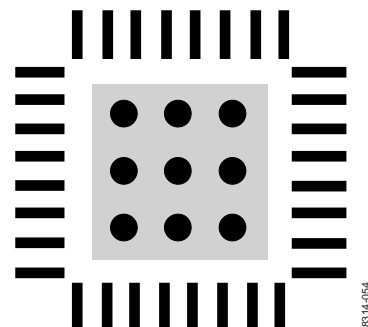

Figure 58. Exposed Pad Layout Example, Top View
- Vias should be placed to connect all layers of copper, allowing for efficient heat and energy conductivity. For an example, see Figure 58, which has nine vias arranged in a 3 inch \times 3 inch grid in the pad area.